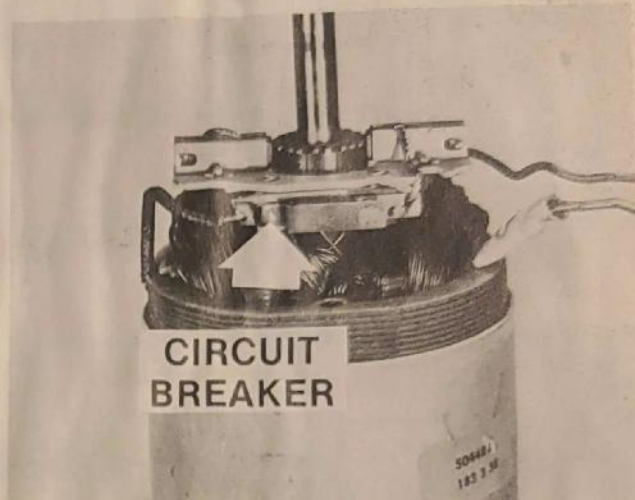

Fig. 42. Brush Replacement
6. Inspect brushes. If worn out, replace assembly. Unsolder leads. Install replacement holder and solder. Black lead attaches to circuit breaker (fig. 42).